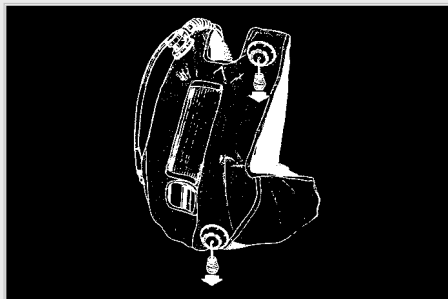

Fig. 20
- 5) Operate the overpressure / rapid exhaust valve (Fig. 20) to be sure it is functioning properly.